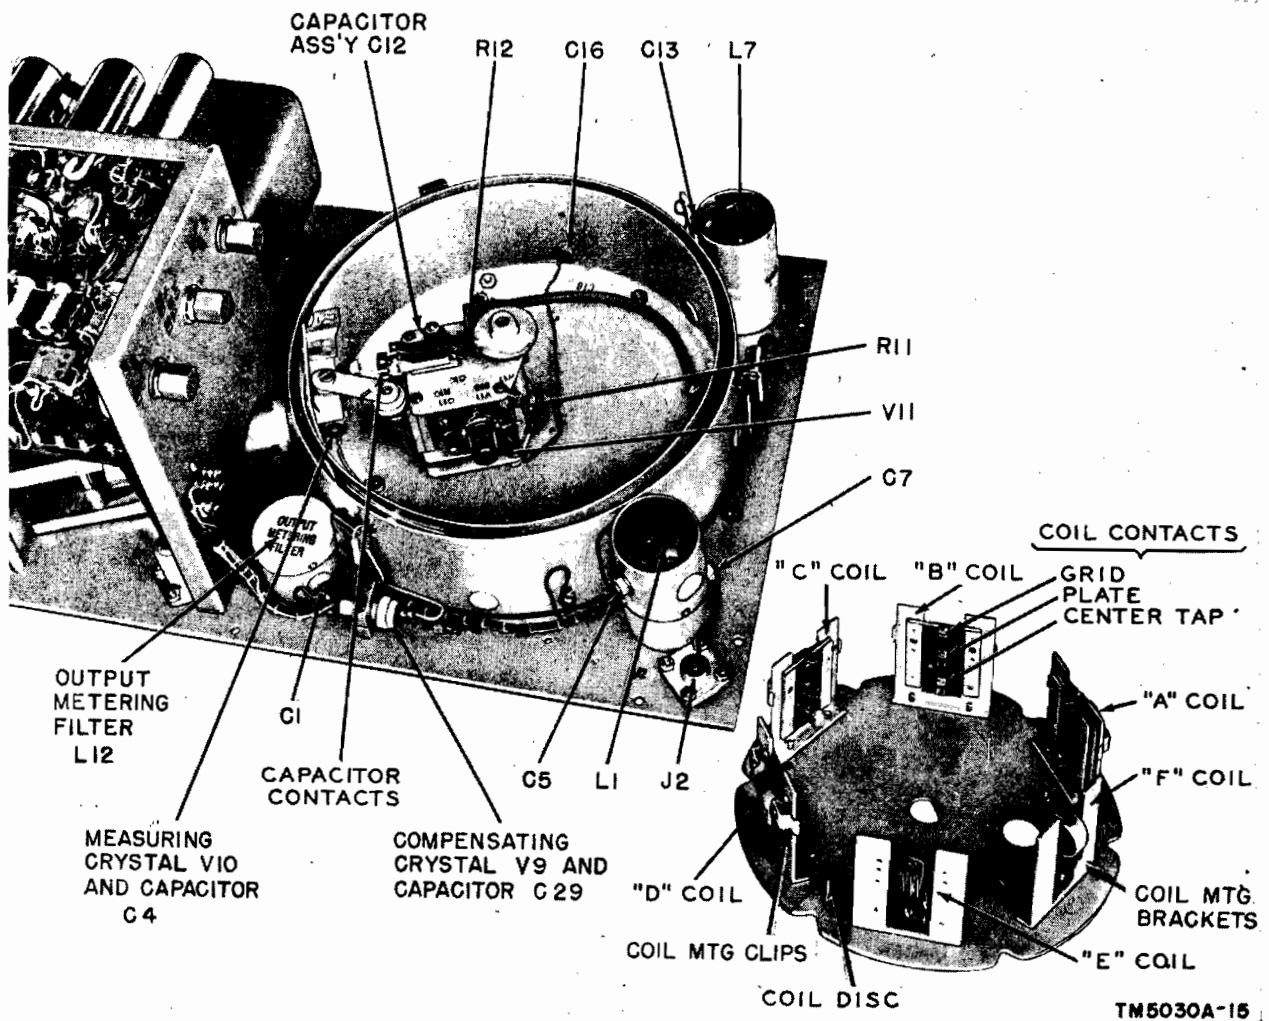

Figure 21. Oscillator assembly.
Caution: Do not rotate the coil disk before visually checking the alignment of the three coil contacts with respect to the contact posts on the capacitor assembly C 12 (fig. 21). Misalignment of these coil contacts, caused by improper seating of the coil disk on its bushing, will cause serious damage to the contacts.
The carrier oscillator tube, V11, is located on the side of the capacitor assembly, C12, (fig. 21). Replace as follows:
a. The measuring crystal V10 (fig. 21) can be replaced in the following manner:
- (1) Remove the drum shields and coil disk (par. 52).
- (2) Unscrew the crystal holder cap which contains bypass capacitor C4. The holder is mounted on the attenuator measuring tube.
- (3) Remove the crystal by pulling it straight out.
- (4) Replace the crystal and capacitor cap.
- (5) Check the pickup lead from the crossbar of the middle tube for a possible short after replacement of the crystal.